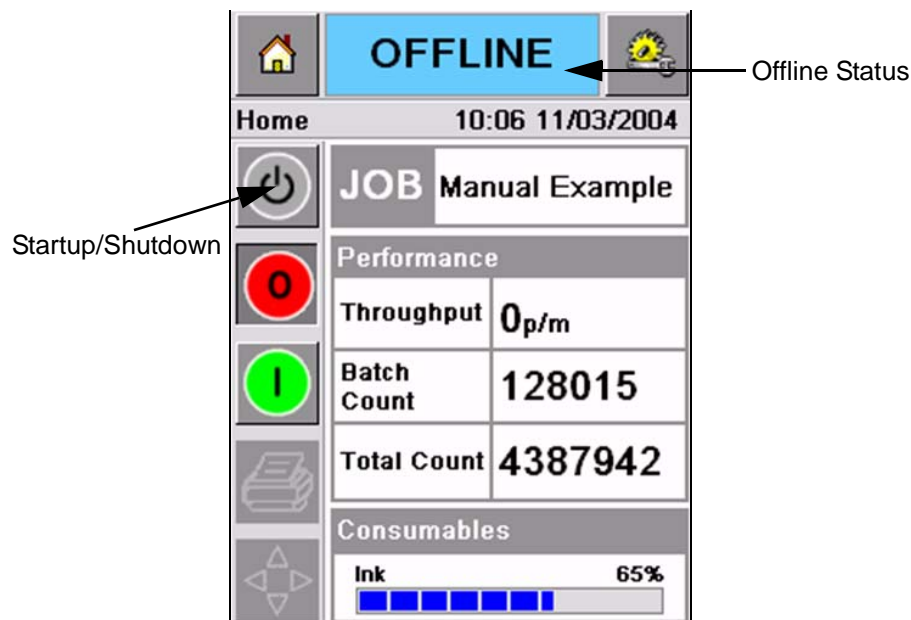

Figure 4-4: Home Page - Offline
- The *Offline* status appears in the status window of the CLARiTY® Home Page (refer to Figure 4-4).
- The *Stop* and *Run* buttons become active (Figure 4-4).